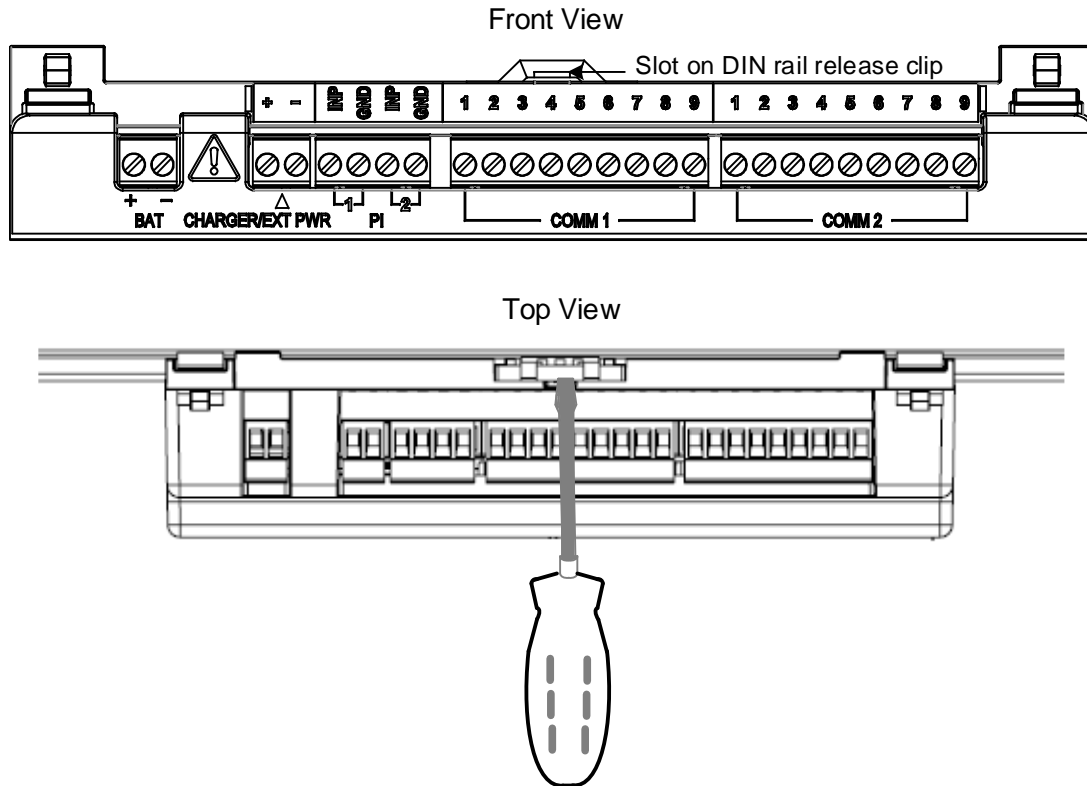

Figure 89: Remove from DIN rail
2. Gently push the screwdriver handle down to release the clip and remove the RMC from the DIN rail (Figure 89).